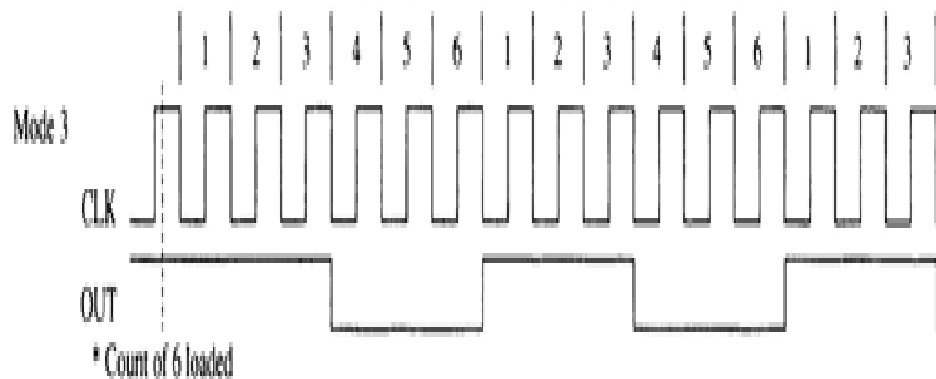

Figure 92 : Timinnng diagram - MODE 3
2. Out will initially be high(Figure 92).